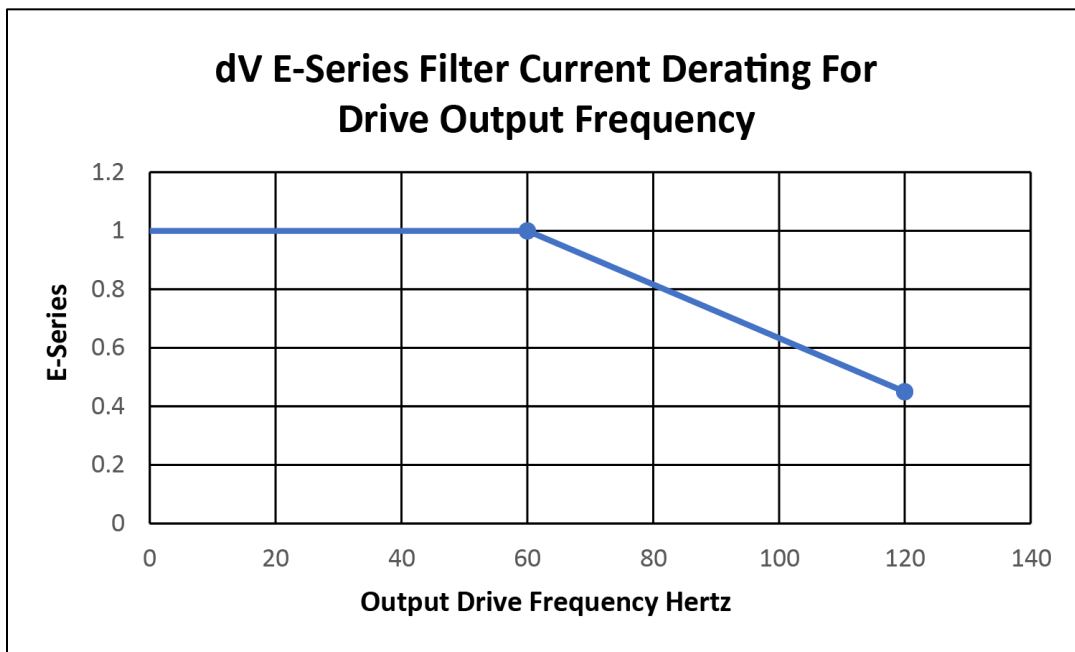

Figure 3-3: Current Derating for Drive Output Frequency
- Drive Output Frequency:** Support for 0Hz to 60Hz without derating. See Figure 3-3: Current Derating for Drive **Output Frequency** (p12) for derating curve.